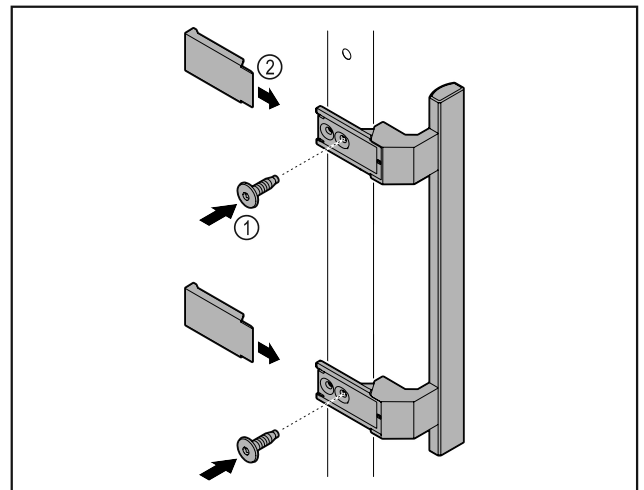

Fig. 2
- ▶ Attach handle from accessory kit to the door using the screws Fig. 2 (1) supplied.
- ▶ Put on cover Fig. 2 (2).